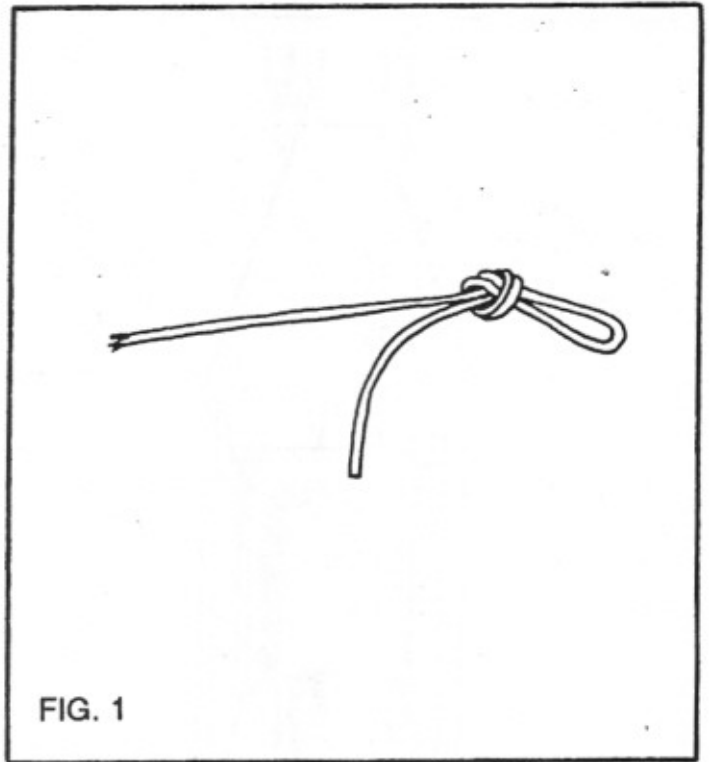
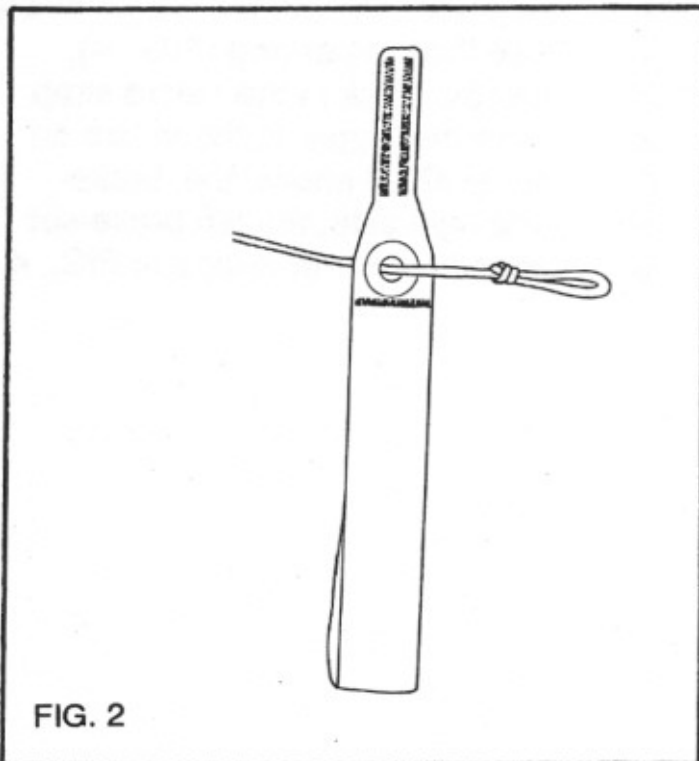
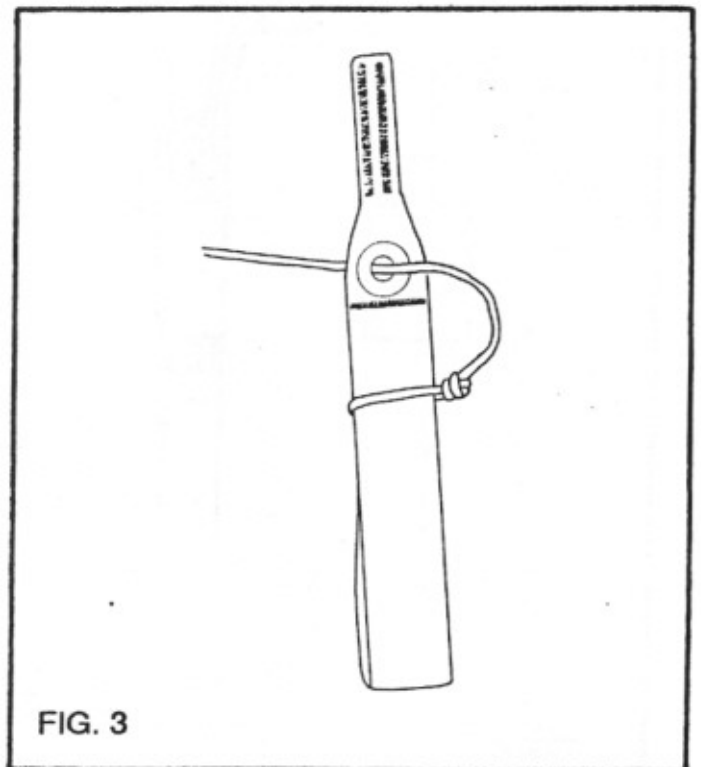

FIG. 1
FIG. 2
FIG. 3
3) To attach the DOLPHIN reserve pilot chute to a round reserve canopy, use the bridle supplied by ALTICO. The bridle has a large loop at one end, and a smaller loop at the other end. The smaller loop should be used to attach the bridle to the canopy as shown in FIG. 1. Tack the loop securely in place, being sure that the lines at the apex of the canopy are free to move back and forth in the loop. The bridle must not be allowed to cinch down on the apex lines. Then attach the pilot chute to the other end of the bridle. (The purpose of the larger loop is to accommodate the top plate of the pilot chute.)
4) When the suspension lines have been stowed on the full diaper, there should be about 8" to 12" of lines unstowed between the diaper and the connector links. Bring the diaper up over the upper end of the reserve pack tray and lay the risers into the reserve container so that they lie flat with no twists. Now position the diaper in the lower left corner of the reserve container, and if the diaper does not fill the bottom of the container from side to side, make a small fold with the canopy in the lower right corner to equalize the bulk as shown in FIG. 2.
5) Continuing with the canopy, make a fold up and down the right side of the reserve container as shown in FIG. 3, and then lay a fold of canopy across the bottom of the container.
Double the control line back on itself below this mark and tie an overhand knot as shown in FIG. 1. The loop should be approx. 1" long, and the mark should be on the canopy side of the knot when it is tightened. Cut the remainder of the control line to a length of approx. 8" (with scissors, *not* a hot knife), and fingertrap the end into the control line. Do not sew the fingertrapped part. Now pass the knotted end of the control line thru the grommet as shown in FIG. 2, then put the lower end of the toggle thru the loop as shown in FIG. 3. Tighten the loop on the toggle as close to the grommet as possible.